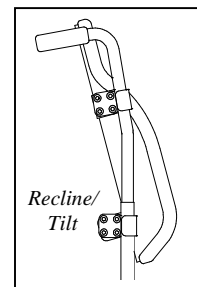

Figure 3
**Recline/Tilt:** By alternating the L-Brackets (D), the Back Shell (A) can be set at greater angle positions, which is displayed in Figure 3.